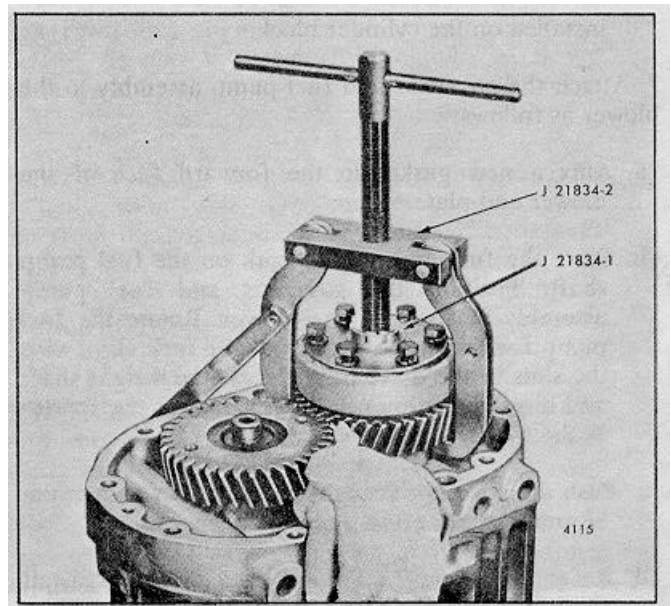

FIG. 28 - Aligning Blower Drive Coupling
- b. Apply a light coat of grease to the back of the spring seats. Place the half round spring seats in the grooves inside the support and the flat spring seats inside the support at each end of the opening (Fig. 28).
- d. Place the alignment clamp adaptor J 21834-1 in the coupling cam (Fig. 28). Then install the alignment clamp J 21834-2 and tighten it only enough to prevent any misalignment during assembly of the coupling to the gear.